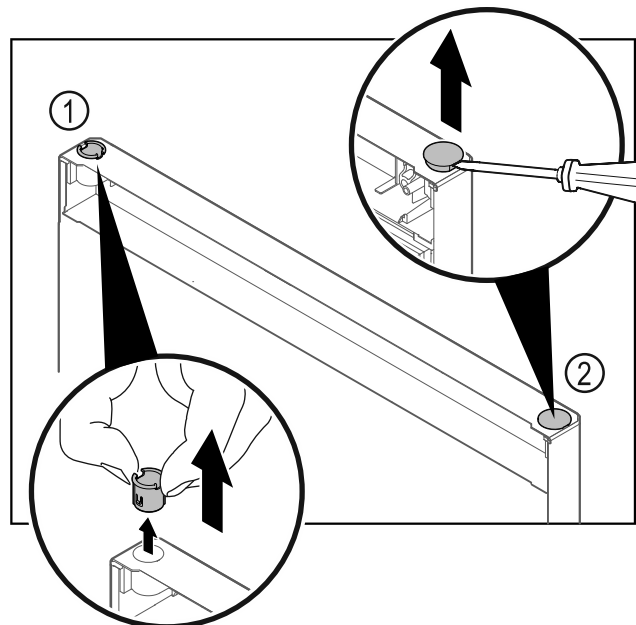

Fig. 27 Fridge compartment door
- ▶ Pull out the hinge bushing Fig. 27 (1) with your fingers.
- ▶ Carefully lift the cover plug Fig. 27 (2) with a slotted screwdriver and pull it out.